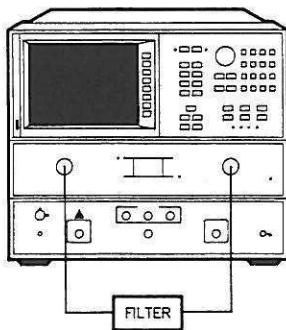

Figure 24. Electrical Reflection Measurement Setup
7. Connect the DUT as shown in Figure 24. To better view the data press: